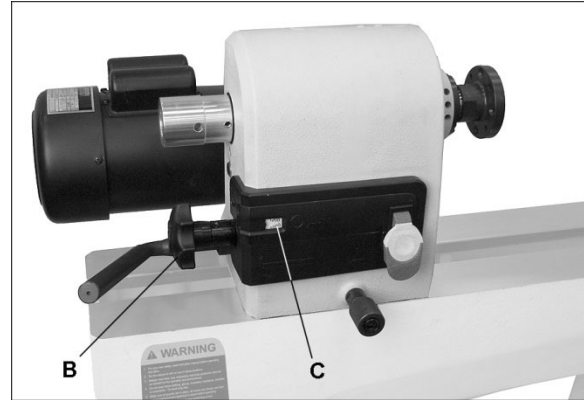

Figure 20
Speed control handle: Rotate handle (B, Figure 20) to set speed, which is displayed as RPM (revolutions per minute) in the adjoining window (C).